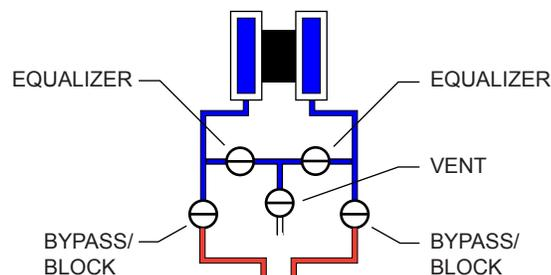

Figure 2.14—Valve positions for manifold leak test
3. Close both bypass/block valves on the manifold to isolate pressure between the block valve and the MVT (Figure 2.14).